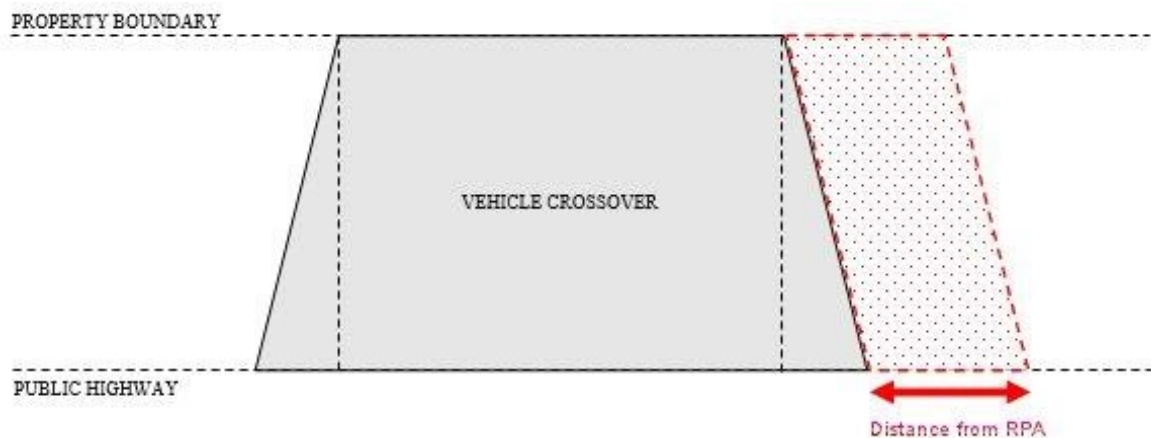

Figure 9: Required Distance From Street Vegetation
- Figure 9: Required distance from street tree/vegetation
- f) **Trees – Highway trees will not be removed to allow a vehicle crossover.** If there is conflict with an established street tree on the public highway, a vehicle crossing cannot be constructed within the root protection area (RPA) of the tree in accordance with British Standards (currently BS 5837:2012). As a guide, for a tree with a single stem, the RPA is calculated as **12 times the stem diameter**, measured at a height of **1.5m** above the ground level as shown in Figures 9 and 9a, below. (This does not apply to trees on private land). Additionally, no crossover will be permitted within a distance of **1metre** from the trunk of a tree. Note that if the assessing officer has concerns about conflict with the presence of roots within **300mm** of the ground surface of a tree, roadside shrubbery, or planter, an inspection trench may need to be dug to investigate further. This will be at the applicant's expense and is non-refundable.